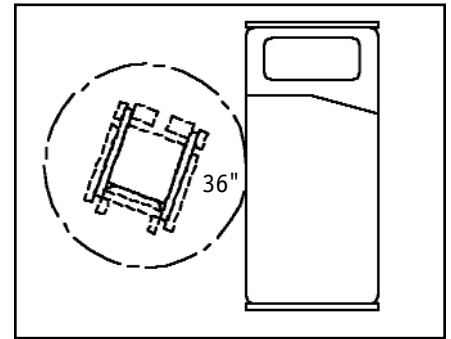

Figure 2
- c. Allow 36" (1000 mm) of open area for transfer working space (Figure 2).